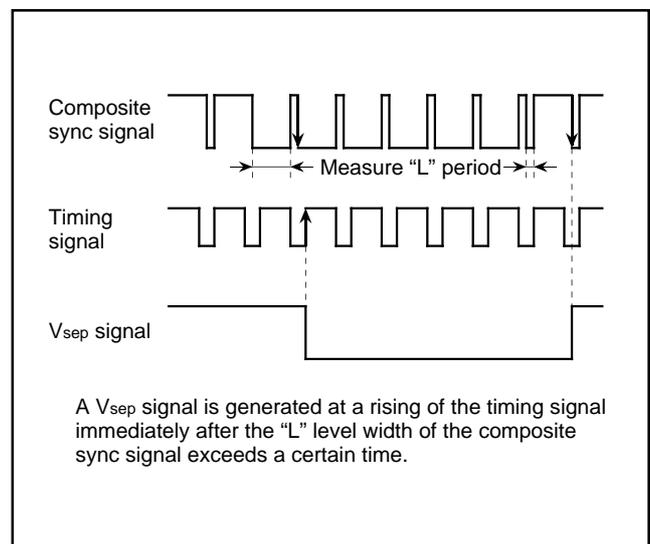

Fig. 25. Vsep generating timing (method 2)
- Method 2 The "L" level width of the composite sync signal is measured. If this width exceeds a certain time, it is detected whether a falling of the composite sync signal exits or not in the "L" level period of the timing signal immediately after this "L" level. If a falling exists, a Vsep signal is generated in synchronization with the rising of the timing signal (refer to Figure 25).
Figure 25 shows a Vsep generating timing. The timing signal shown in the figure is generated from the reference clock which the timing generating circuit outputs.